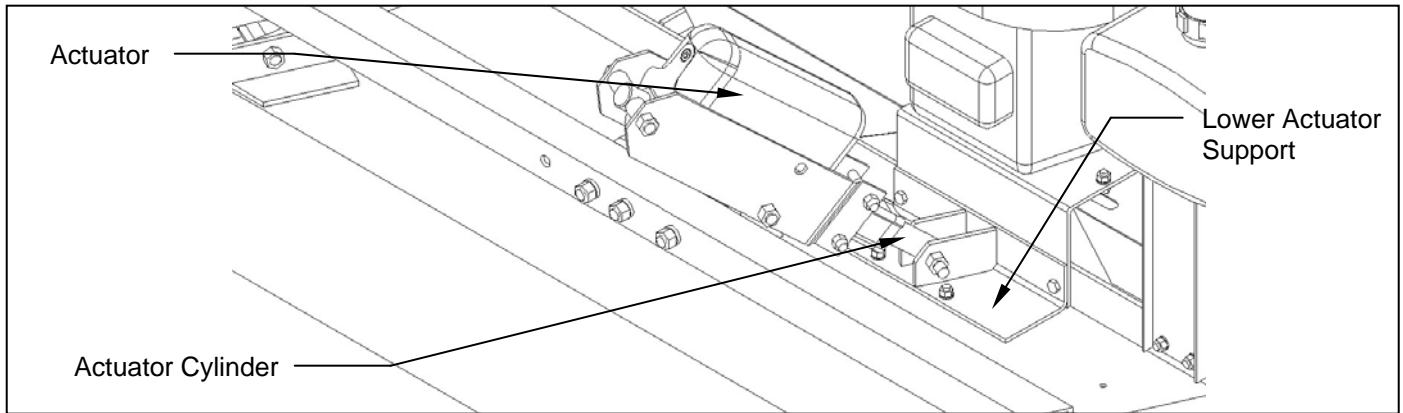

Figure 4. Actuator and Lower Actuator Support Alignment
4. Remove the 1/2 " X 2-1/2" bolt and lock nut from the lower actuator mount. Attach the battery clips on the lift control wiring assembly to the appropriate terminals on a battery (red attaches to the positive terminal and black to the negative terminal). Stand back and activate the appropriate "down" switch until the actuator cylinder hole aligns with the lower actuator support. After achieving alignment, attach the actuator cylinder with the 1/2" x 2-1/2" hex head bolt and secure the bolt with the provided lock nut. **See figure 4.**